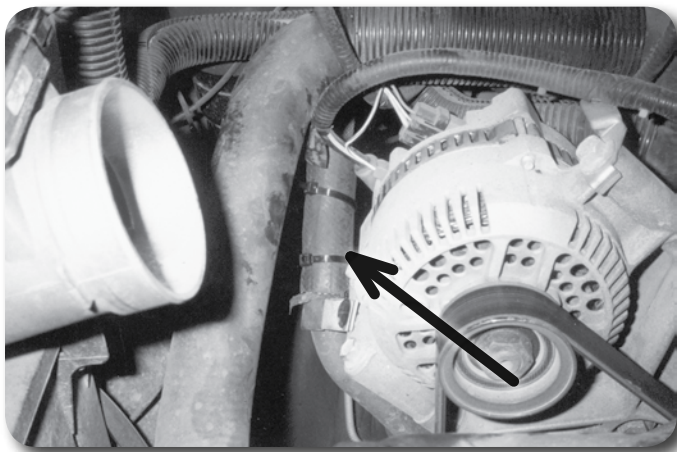

Figure 17
52. On A/C equipped models the A/C hose may be rubbing on the alternator. Use the provided 3/4" x 6" piece of hose and zip ties to insulate the hose **Figure 17**.